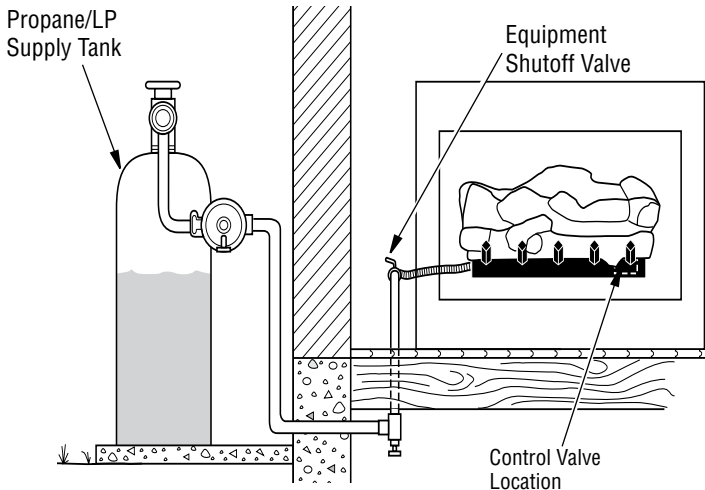
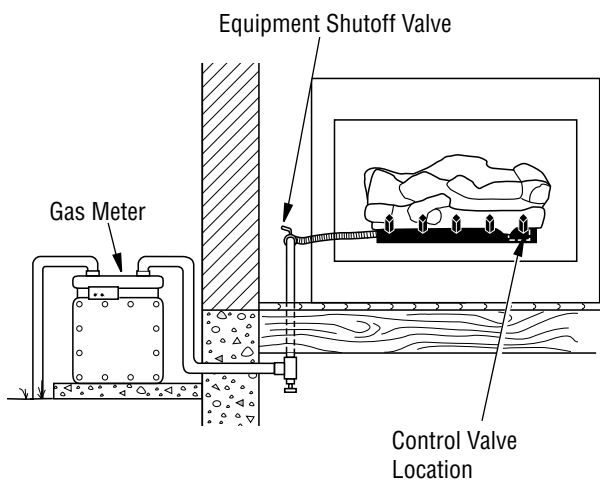

Figure 14- Checking Gas Joints (Propane/LP Only)
Figure 15 - Checking Gas Joints (Natural Gas Only)
3. Check all joints from gas meter to equipment shutoff valve for propane/LP (see *Figure 14* or *Figure 15, Page 11*). Apply noncorrosive leak detection fluid to all joints. Bubbles forming show a leak.
4. Check all joints from gas meter to equipment shutoff valve for propane/LP (see *Figure 14* or *Figure 15, Page 11*). Apply noncorrosive leak detection fluid to all joints. Bubbles forming show a leak.